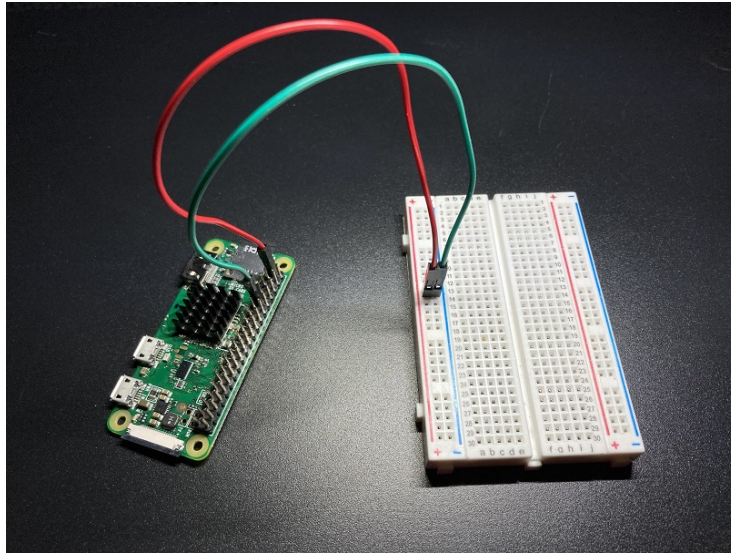

Figure 1: Power and ground connection to breadboard and Pi
1. First setup your power and ground jumper wires coming from your Raspberry Pi to your breadboard. Use your GPIO pinout diagram to figure out which pin is your 3.3 volt power and which pin(s) are ground. Connect your red wire's (color doesn't really matter but may help) female end to 3.3 volts power on the Raspberry Pi and the male end to the power/positive/+ bus on the breadboard (Figure 1). It doesn't really matter which spot on the bus you connect it to, the whole column is connected, remember? Do the same for the ground jumper wire.